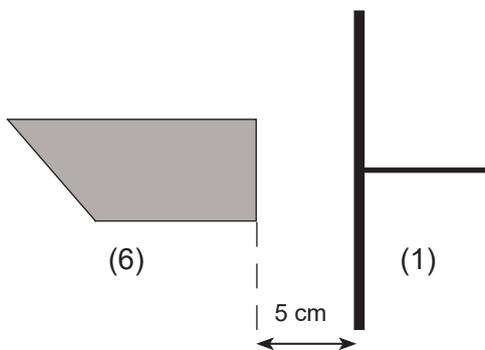
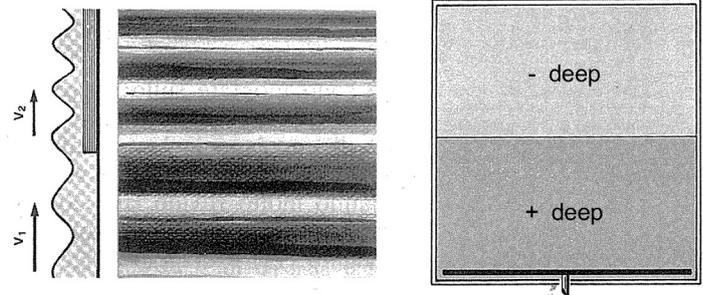

Fig. 9
Fig. 10
Check that the water is 1cm deep. Then repeat the experiment no. 2, putting on the tank bottom the trapezoidal body (6), as shown in Figure 9. Where the body is placed, water has shallowest depth so waves velocity is lower and the wavelength is shorter. (Fig. 10)